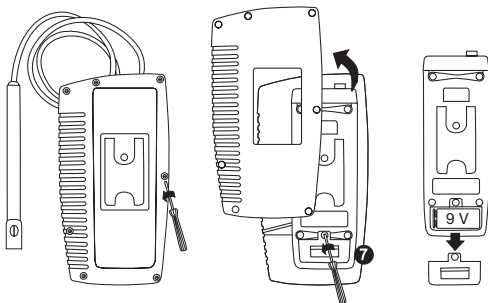

Figure 3
- 2) Remove the protective cover before replacing the battery. To replace the battery, remove the Battery Compartment Cover (Figure 3, **7**) on the rear of the meter.